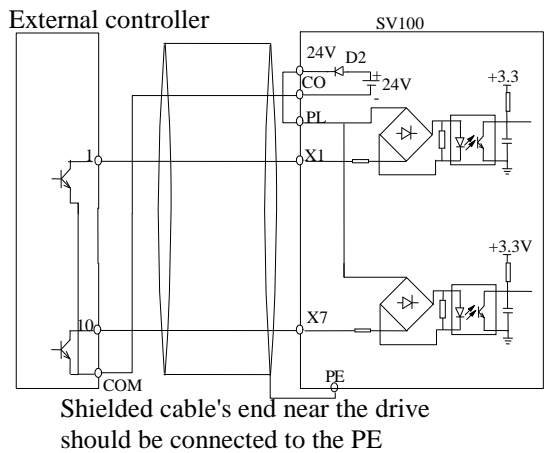

Fig.4-9 Source connection of using the external power supply
1) Use internal +24V power supply and the external controller uses NPN transistors whose common emitter are connected, as shown in the fig.4-9